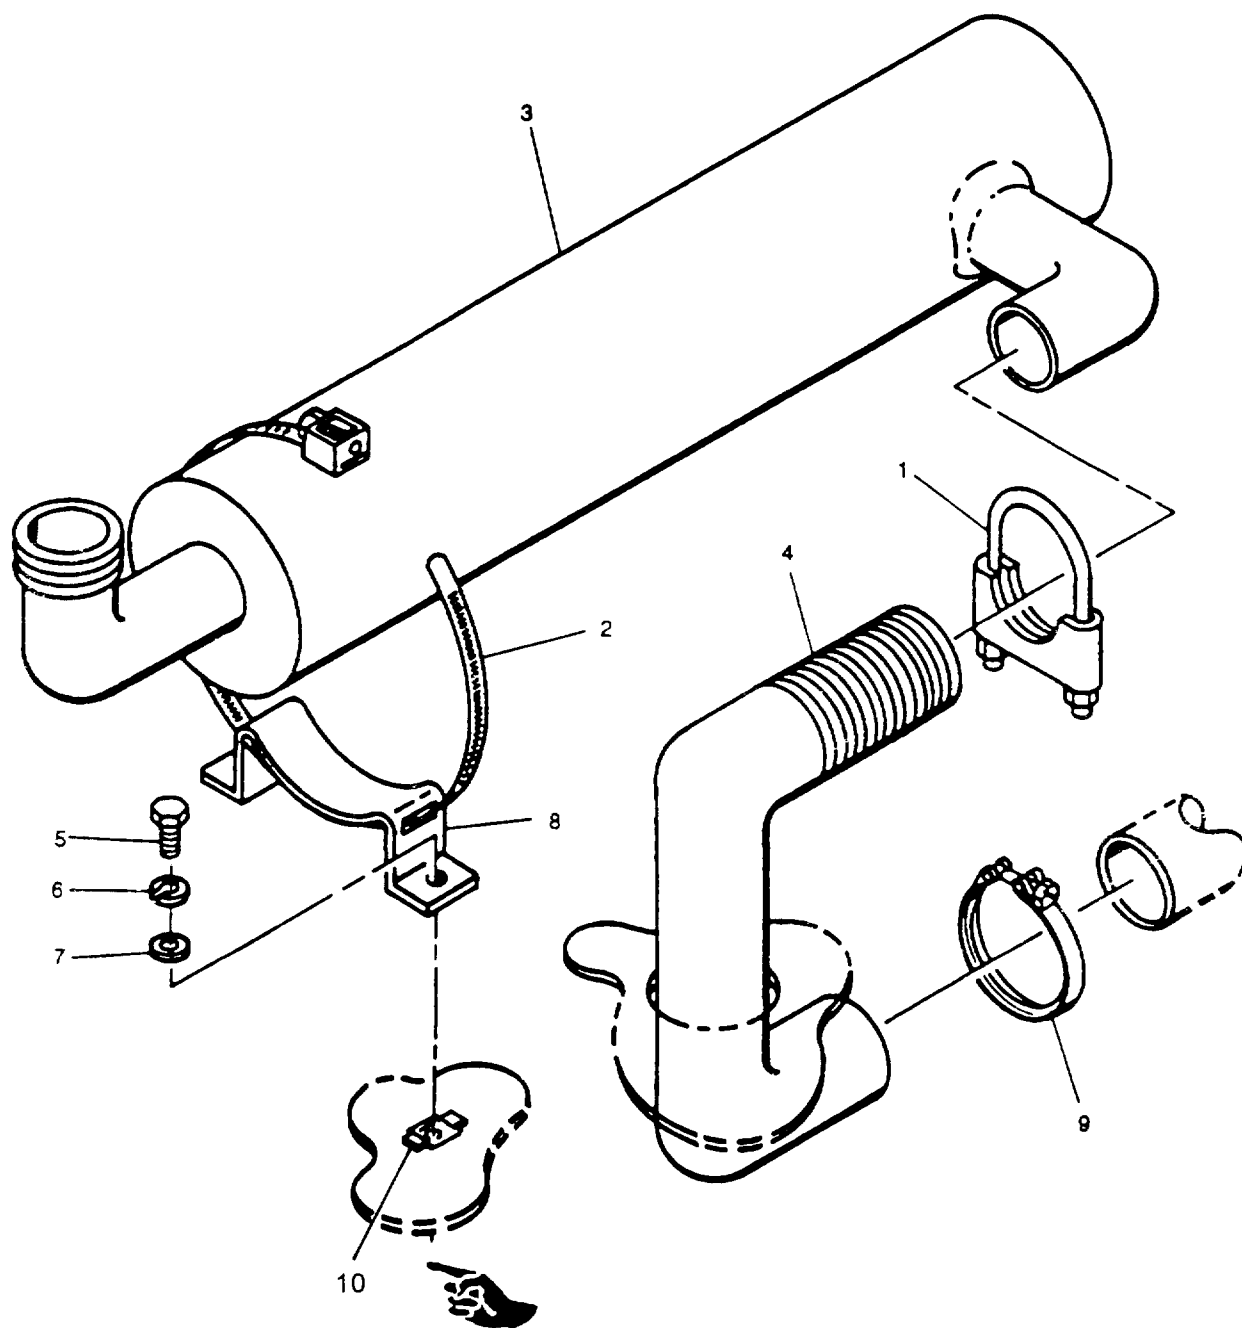

FIGURE 2-20. Muffler and Exhaust Pipe
- c. Loosen nuts and remove clamp (1., FIGURE 2-20).
- d. Open bands (2) and separate muffler (3) and pipe (4). Remove muffler (3) from generator set.
- e. Remove bolts (5), lockwashers (6), washers (7), nuts (10), and muffler supports (8).
- f. Loosen exhaust pipe clamp (9) at turbocharger outlet.
- g. Remove left side air deflector and sufficient hardware securing top section floor panel, paragraph 2-16 1, to allow Removal. of exhaust pipe (4) from generator set.
- d. Inspect muffler (3., FIGURE 2-20) and pipe for cracks, excessive corrosion, clogging, and other damage.
- a. Install muffler supports (8., FIGURE 2-20) with nuts (10), bolts (5), lockwashers (6), and washers (7).
- b. Install pipe (4) with clamp (9). Do not tighten clamp (9).
- d. Couple muffler (3) to pipe (4) with clamp (1). Do not tighten clamp (1).
- e. Secure muffler (3) to supports (8) with bands (2).
- f. Tighten clamps (1) and (9).